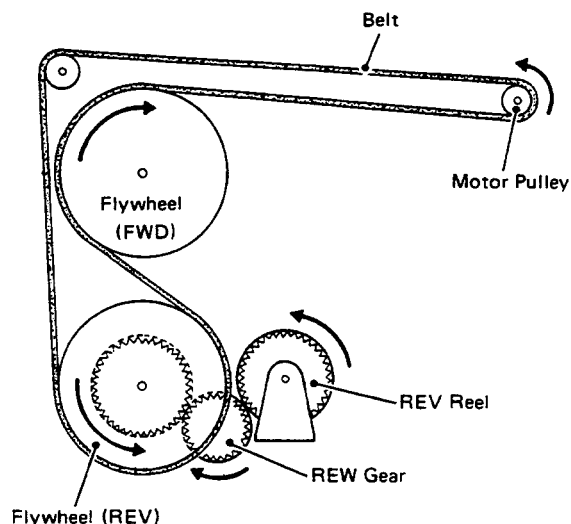

Fig. 10
- (3) As motor switch turns ON, the motor starts running, transmitting its rotations toward the arrow direction shown in the Fig. 10. As a result, flywheel (FWD) runs forward and flywheel (REV) runs backward.
- (4) REW gear then transmits the rotations of flywheel (REV) to REV reel, putting the mechanism in REW state and eliminating tape slackening (ATSC). At this time, the FWD reel is locked by the ratchet mentioned in step (14).